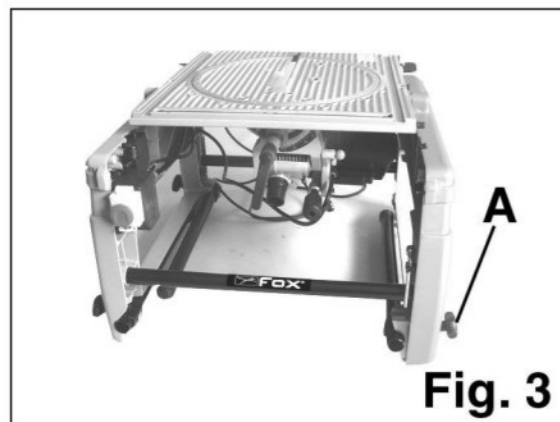

Fig. 3
Fig.3 to 6
3. For this, loosen 4 screws (A) Fig. 3 so that it